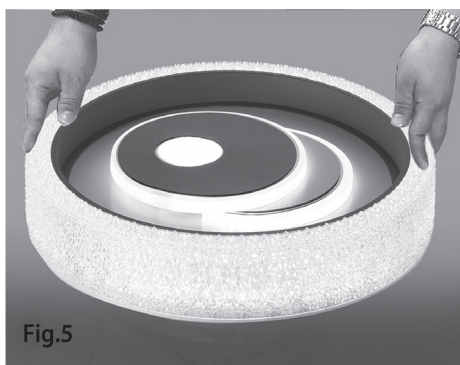

Fig.5
- 5) Place the diffuser by turning it until it is secure (fig.5).